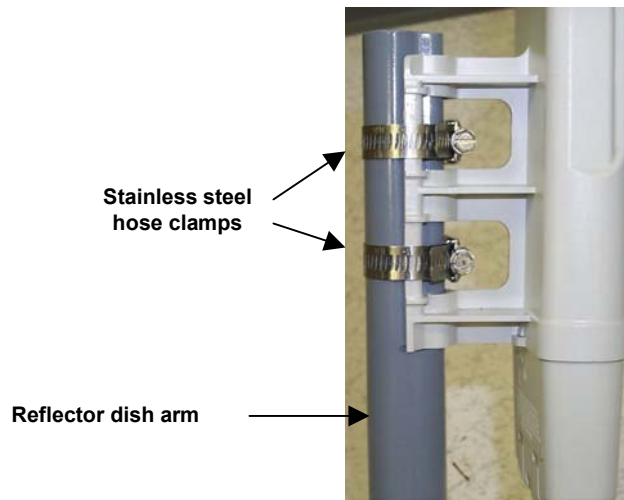

Figure 31: SM attachment to reflector arm
4. Optionally, attach the SM to the arm of the Canopy Passive Reflector dish assembly as shown in Figure 31.